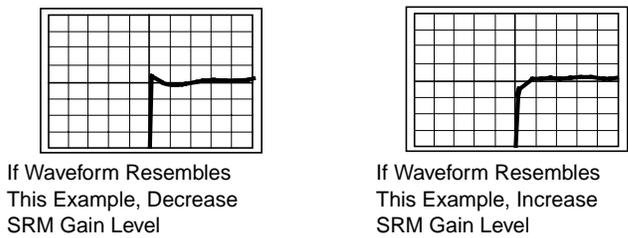

Figure 11-5: Sample SRM Gain Waveforms
13. Adjust the gain (see Figure 11-5). Type a change in value and press <ENT>.